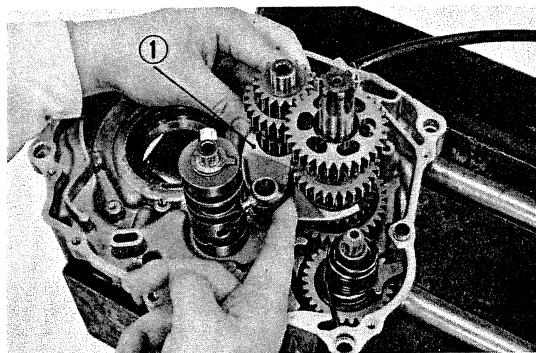

Fig. 95 ① Center shift fork
- 6) Install the center shift fork in the same manner. (Fig. 95)